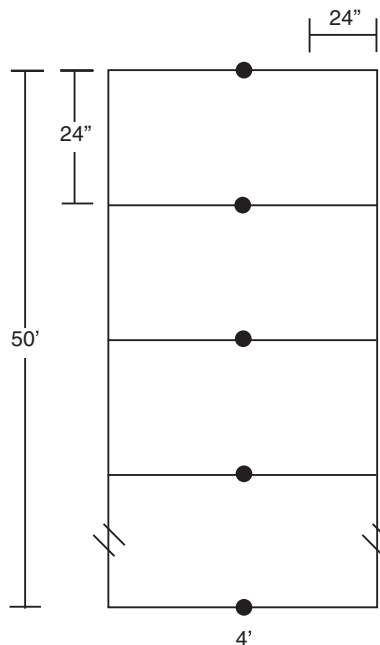

Figure 4
- a. Unfold three sections of the 50' (15.2 m) bundle of GreenGuard® PB6 or GreenGuard® PB6 PLUS and attach it to the existing roof deck using 2-3" (76 mm) diameter plates and screws that are long enough to penetrate through the existing roof system to the underlying roof deck. Attach GreenGuard® PB6 and GreenGuard® PB6 PLUS using the fastening pattern shown in Figure 1 or Figure 4. Alternative fastening patterns must be approved by the roofing recovery board manufacturer prior to starting the job. Additional fasteners may be used if necessary to secure the roofing recovery board during windy conditions or when the surface of the existing roof system has inconsistencies. Note: Factory Mutual Research requires that a minimum of 4 fasteners (1 fastener/4 ft²) be used for insulations having any one dimension greater than 4 feet (1.2 m) on all jobs that involve buildings insured by Factory Mutual underwriter companies.